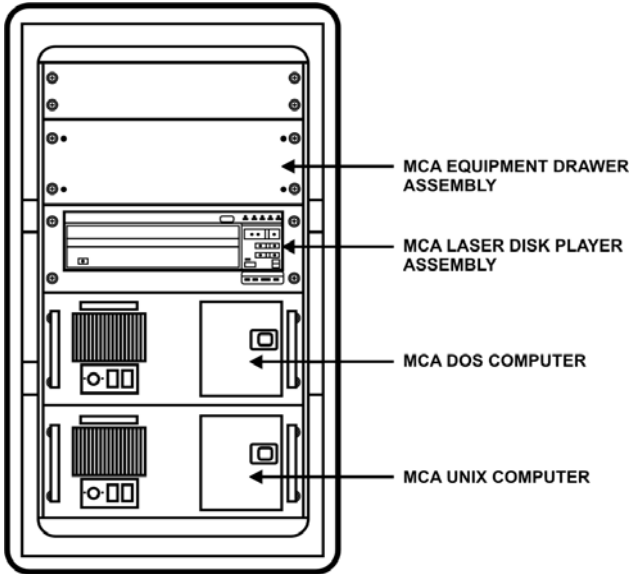

Figure 4-1: Main Case Assembly (MCA)
- a. Main Case Assembly (MCA)—104 kg (see Figure 4-1);